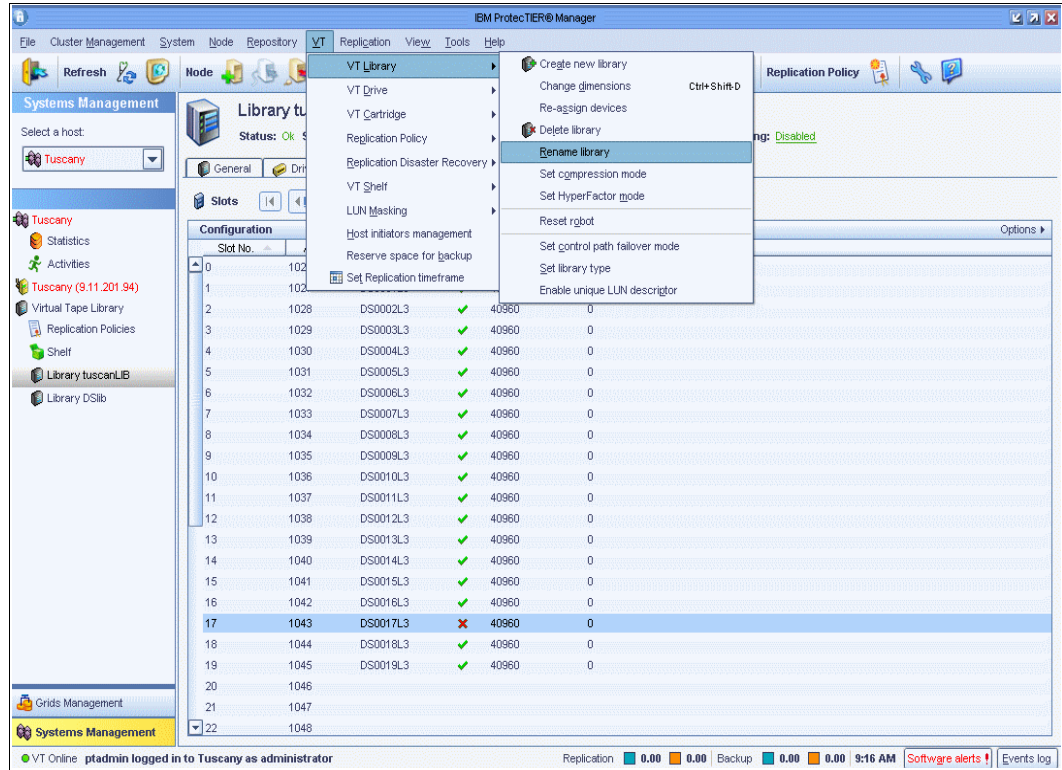

Figure 10-49 Select the virtual tape library to be renamed
2. From the menu bar, select **VT** → **VT Library** → **Rename library** (Figure 10-49).